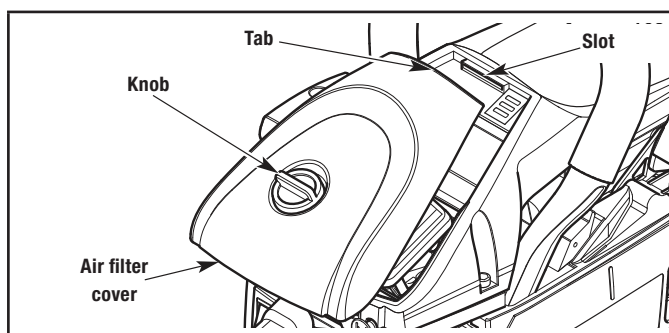

Figure 41
1. Turn the knob on the air filter cover counter-clockwise to loosen the air filter cover (Fig. 41).
2. Remove the air filter cover (Fig. 41).
6. Place the air filter cover back onto the chainsaw. Insert the tab on the air filter cover into the slot on the chain saw housing (Fig. 41).
2. Turn the knob on the air filter cover counterclockwise to loosen the air filter cover (Fig. 41).
3. Remove the air filter cover (Fig. 41).
10. Place the air filter cover back onto the chainsaw. Insert the tab on the air filter cover into the slot on the chain saw housing (Fig. 41).